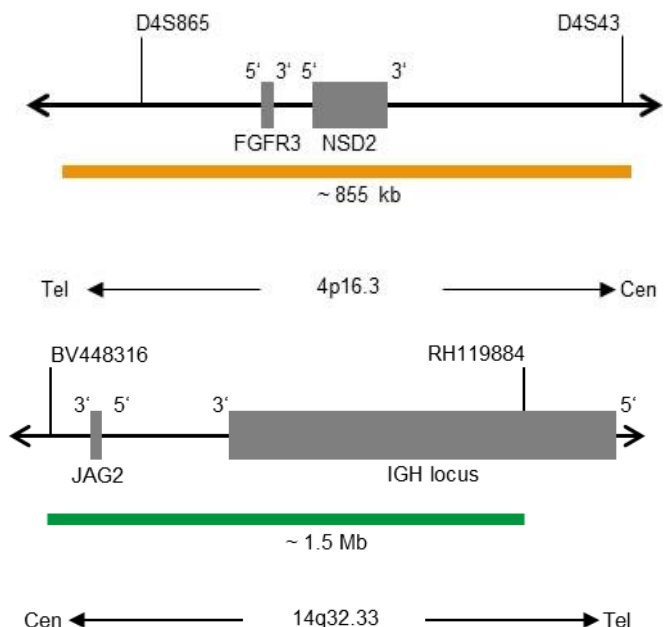

Fig. 1: Top: SPEC FGFR3 Probe map; Bottom: SPEC IGH Probe map (not to scale)
- ZyOrange (excitation 547 nm/emission 572 nm) labeled polynucleotides (~6.0 ng/μl), which target sequences mapping in 4p16.3\* (chr4:1,496,938-2,351,657) harboring the FGFR3 gene region (see Fig. 1).
- ZyGreen (excitation 503 nm/emission 528 nm) labeled polynucleotides (~12.0 ng/μl), which target sequences mapping in 14q32.33\* (chr14:105,462,169-106,995,000) harboring the IGH locus (see Fig. 1).